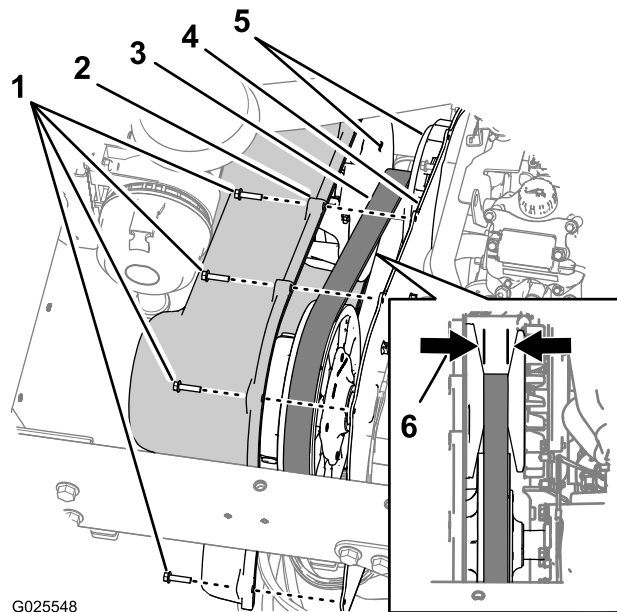

Figure 63
1. Remove the 9 hex-washer bolts (1/4 x 1 inch) that secure the transmission cover to the mounting plate of the transmission (Figure 63).
2. Move the cover forward until you can see the drive belt (Figure 63).
3. Check the tapered faces of the primary clutch for signs of damage (Figure 63).
4. Check the drive belt for missing or damaged cogs (Figure 63).
5. Measure across the belt and record the belt width (Figure 63).
Note: If the width of the belt is 29.5 mm (1.16 inches) or less, replace the belt (Figure 63).
6. Align the holes in the transmission cover with the holes in the mounting plate (Figure 63).
7. Secure the cover to the mounting plate (Figure 63) with the 9 hex-washer bolts (1/4 x 1 inch)